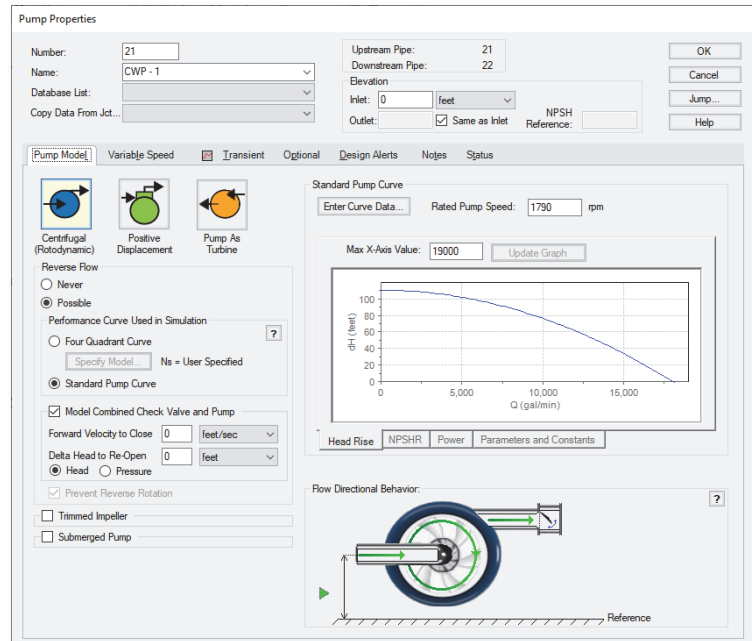

Figure 4.2 Pump Model tab for Pump J21. The internal check valve and flow behavior can be seen in the Flow Directional Behavior section.
9. Check the box to Model Combined Check Valve and Pump, then set the Forward Velocity and Delta Head both as zero. (Figure 4.2)